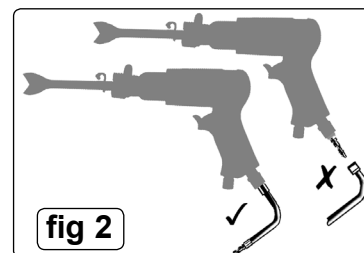

fig 1
The recommended set-up is shown in fig.1.
- 2.8. **Couplings.** Vibration may cause failure if a quick change coupling is connected directly to the hammer. To overcome this, connect a leader hose to the hammer. A quick change coupling may then be used to connect the leader hose to the air line recoil hose. See fig 1 & 2.